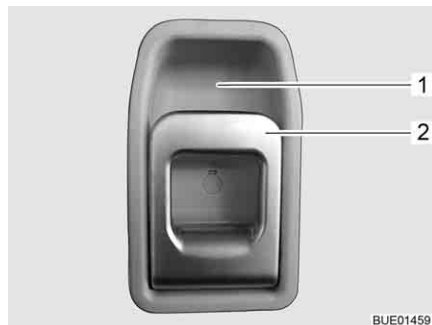

Fig. 28 Door lock of conversion door, inside
- Pull on the handle (Fig. 28,2). The door lock is unlatched.
- Press the upper part of the handle (Fig. 28,2) in the direction of the recessed handle (Fig. 28,1).